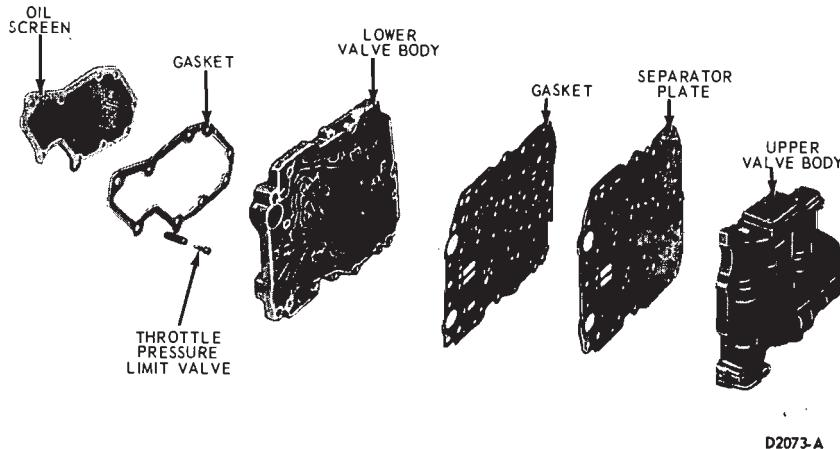

FIG. 57—Upper and Lower Valve Bodies Disassembled—C4 Automatic—All Except Falcon
1. Remove the eight screws that attach the oil screen to the body and remove the screen and gasket (Fig. 57). Be careful not to lose the throttle pressure limit valve and spring when separating the oil screen from the valve body.
17. Position the throttle pressure limit valve and spring in the lower valve body (Fig. 57). Place the gasket and oil screen in position on the lower valve body and secure with the eight attaching screws. Torque the screws to specification.